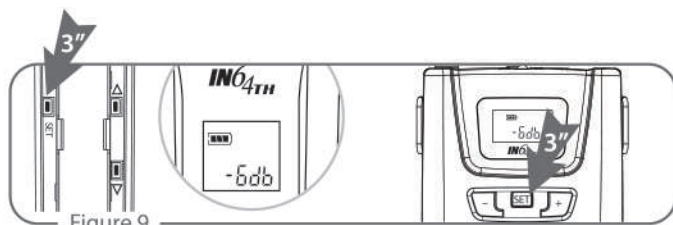

Figure 9
- (1) Press "Set" button 21 29 for 3 seconds, the group (G) will flash. (Figure 9)
- (2) Press "▲Up" 22 30 or "▼Down" 23 31 button to select a desired group
- (3) Press "Set" again and the Channel (CH) will flash.
- (4) Press "▲Up" or "▼Down" button to select a desired channel.
- (5) After setting, press "Set" again to save the settings.